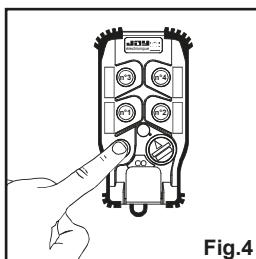

Fig.4
- 5- Once you have selected the desired "dead man" time (between 01 and 99), press the "On/Horn" button to validate your selection (fig.4).